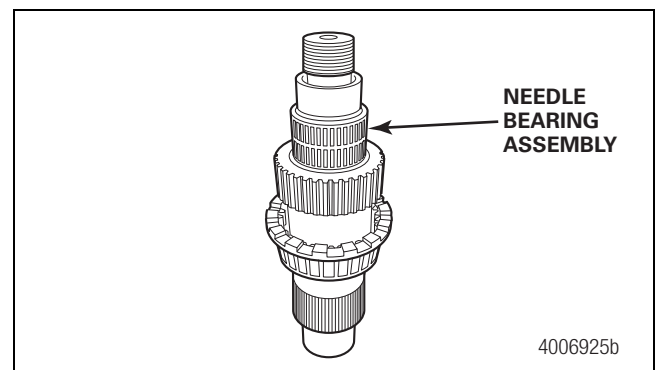

Figure 6.3
5. Install the needle bearing onto the rear half of the output shaft and lubricate it with a light coat of lithium-based grease, Meritor specification O-668. The needle bearing is a slip fit assembly. Figure 6.3.